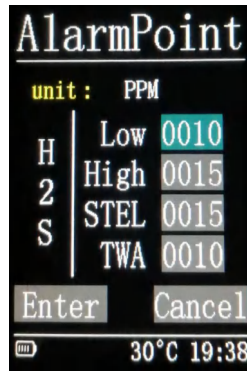

fig 33
- ii.For toxic gases,low alarm,high alarm,STEL and TWAL can be set, as Fig.33.